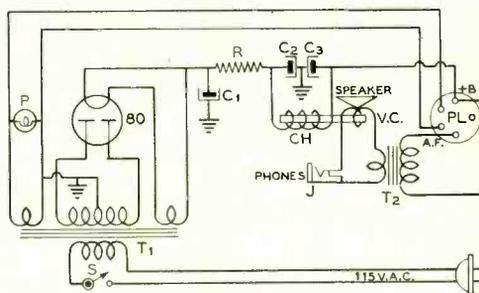

Figure 2
Figure 2. Three methods of obtaining a tone for i.c.w. The system of "C" is essentially the same as that of "B" except that a d.p.d.t. switch makes it unnecessary to plug the mike and key plugs in and out when changing from voice to i.c.w.
Unfortunately my work contains an error: although the general principle of obtaining perfect balance by making R_4 (in figure 2 on page 46) slightly larger than R_3 is perfectly correct, and so are each of equations (1), (2), (3), and (4) on page 89, the definitions given for the ratios α and β are incorrect. Moreover this incorrect definition had the effect of yielding a wrong value for R_4 in the 6SC7 case on page 89.
Denote the voltage between point (A) in figure 2 on page 46 and ground by a , so that a is the actual input voltage to tube T_2 . Now E_b is the output voltage from T_2 ; since the voltage gain of T_2 is m we must have (1')